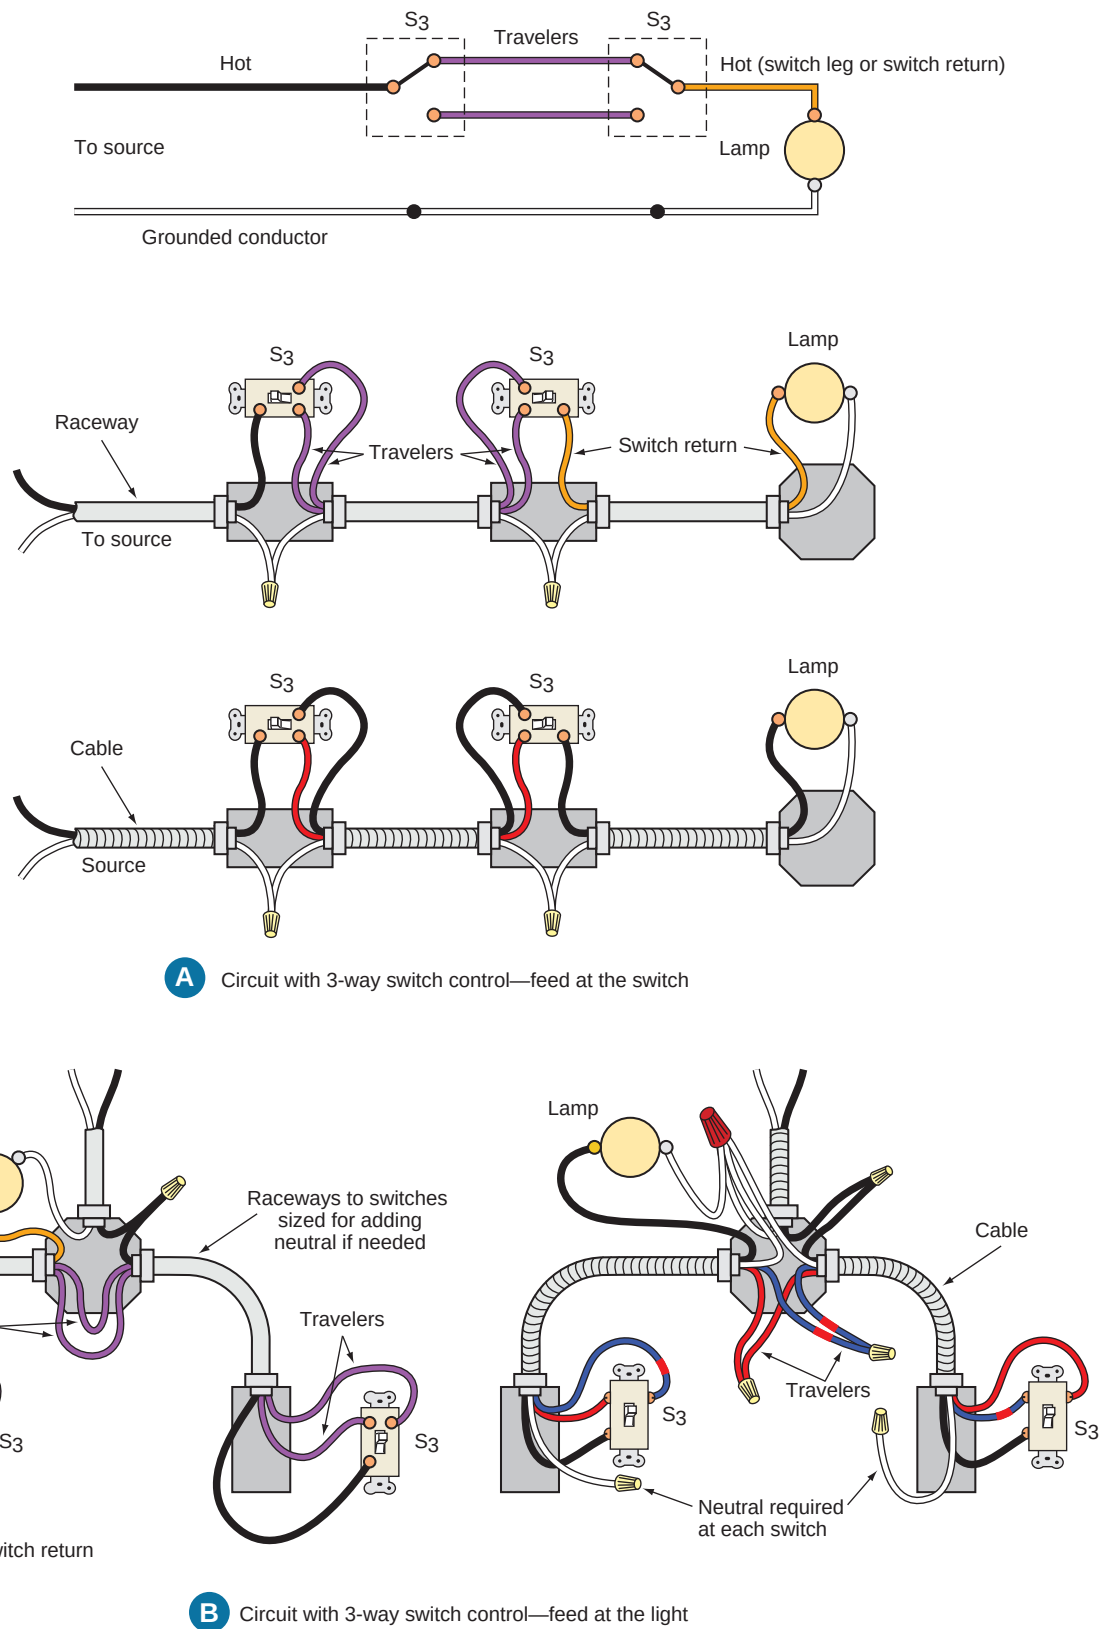

FIGURE 5-22 Three-way switch connections. (Delmar/Cengage Learning)
Three-Way Switches. A 3-way switch should really be called a 3-terminal switch. Three-way switches provide switch control from two locations. A 3-way switch, Figure 5-21, has a *common terminal* to which the switch blade is always connected. The other two terminals are called the *traveler terminals*. In one position, the switch blade is connected between the common terminal and one of the traveler terminals. In the other position, the switch blade is connected between the common terminal and the second traveler terminal. A 3-way switch can easily be identified because it has no On or Off position. Note that On and Off positions are not marked on the switch handle in Figure 5-21A. A 3-way switch is also identified by its three terminals. The common terminal is darker in color than the two traveler terminals, which have a brass color. Figure 5-22 shows 3-way switch connections, one with the source feeding at the light, the other with the source feeding at one of the 3-way switches.
In Figures 5-22(A) and (B), orange has been used for the switch return (switch leg/switch loop) in the raceway (conduit) diagrams. Any color other than white, gray, or green could have been used for the switch return.
A 4-way switch has four terminals. Two of these terminals are connected to the traveler conductors from one 3-way switch, and the other two terminals are connected to traveler conductors from the other 3-way switch, Figure 5-22.